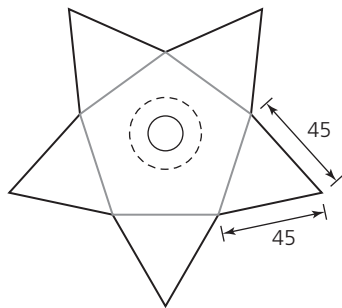

Figure A.8
- 6 Step 1: For any prism, the volume can be calculated by multiplying the area of the cross-section by the height. Both sides of the star that are given are of equal length. They form an equilateral triangle with a pentagon at the centre of the star, as shown in grey in Figure A.8.